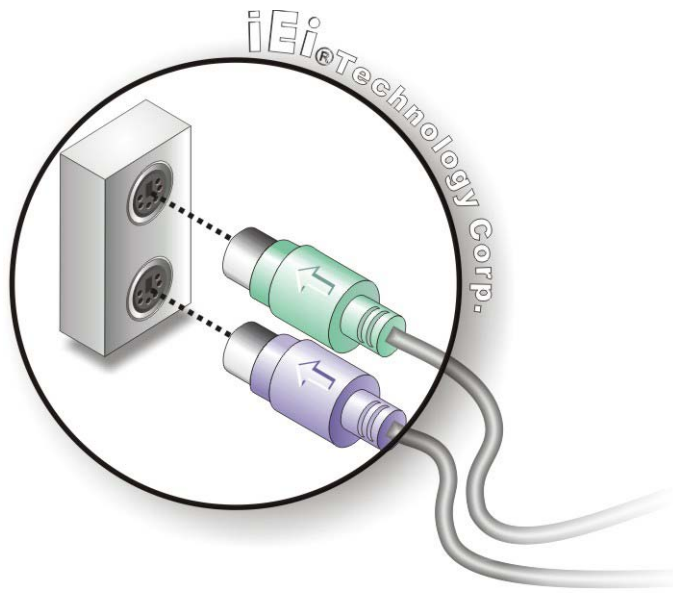

Figure 4-14: PS/2 Keyboard/Mouse Connector
Step 2: Insert the keyboard/mouse connector. Insert a PS/2 keyboard or mouse connector into the appropriate PS/2 connector on the external peripheral interface connector. See **Figure 4-14**.